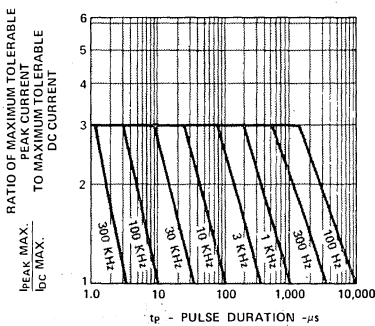

Figure 2. Maximum Tolerable Peak Current vs. Pulse Duration. ($I_{DC\ MAX}$ as per MAX Ratings.)
- See Figure 2 to establish pulsed operating conditions.